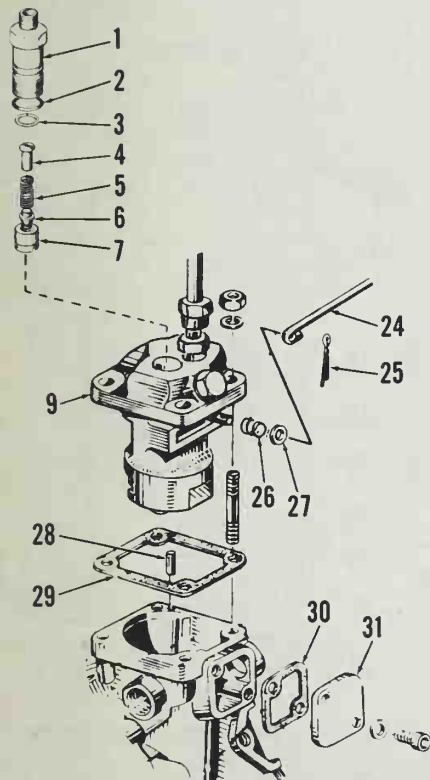

Fig. W2-4—Partial exploded view of fuel injection pump.
Injection pump timing is adjusted using shim gaskets (29 - Fig. W2-4) between pump body and mounting surface on crankcase. Refer to INJECTION PUMP section for pump removal and installation.
R&R AND OVERHAUL. To remove fuel injection pump, disconnect fuel lines and remove cover (31-Fig. W2-4) adjacent to pump. Place a clean rag underneath control rod (24) so cotter pin (25) cannot fall into crankcase. Then, remove cotter pin (25) and detach control rod end from pump control rack pin. Unscrew pump retaining nuts and remove fuel injection pump. Do not lose shim gaskets (29).